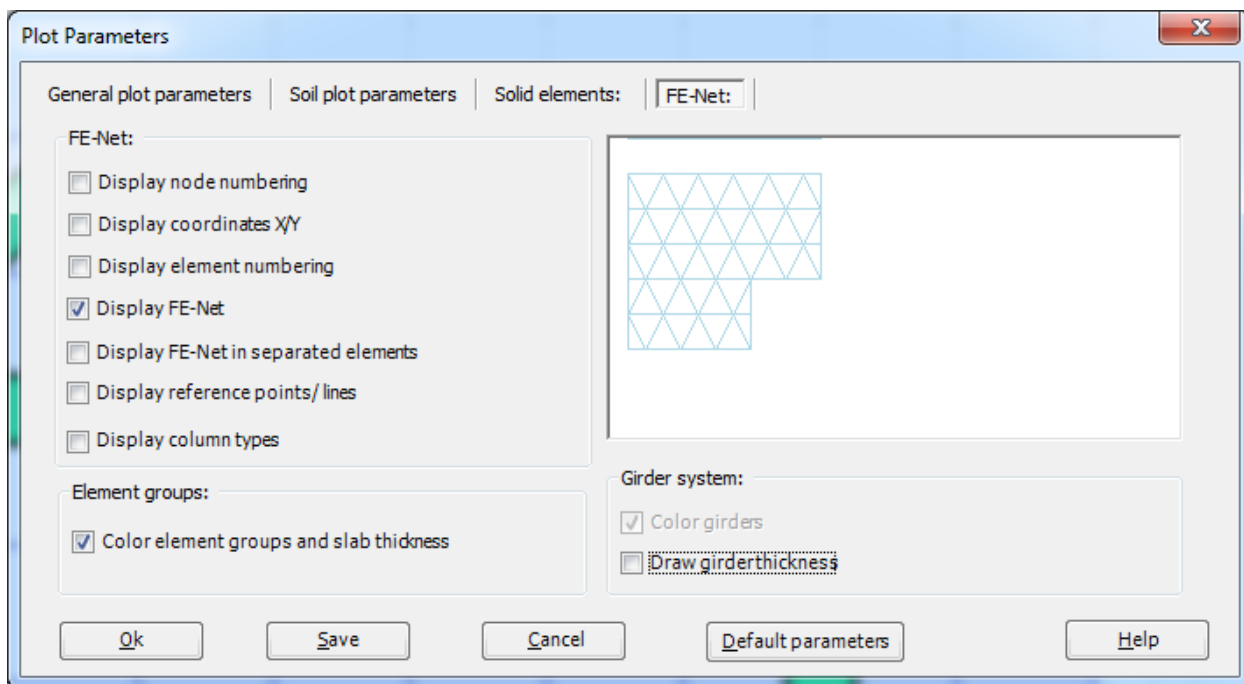

Figure 7.19 "Plot Parameters" dialog box
- Choose "Plot Parameters" command from "Setting" Tab. The "Plot Parameters" dialog box in Figure 7.19 appears